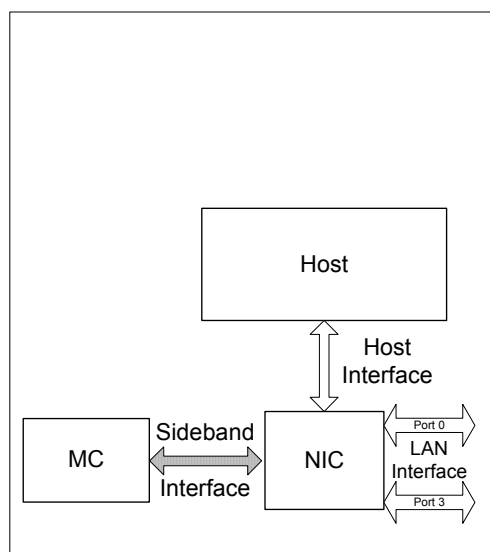

Figure 10-1. Sideband Interface
10.1 Pass-Through (PT) Functionality
Pass-Through (PT) is the term used when referring to the process of sending and receiving Ethernet traffic over the sideband interface. The I210 has the ability to route Ethernet traffic to the host operating system as well as the ability to send Ethernet traffic over the sideband interface to an external MC. See Figure 10-1.